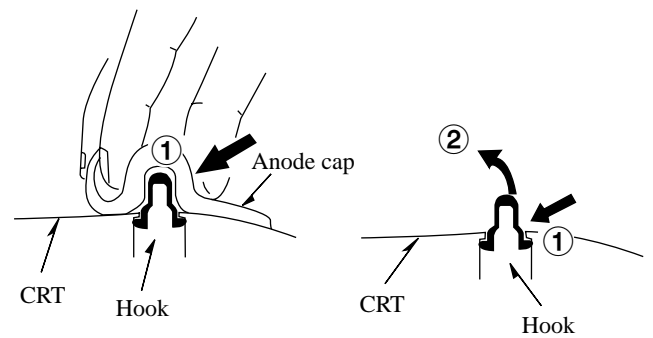

Fig. 2-3
- (5) Push the anode cap with your thumb in the direction of arrow ① as shown in the figure, then lift the cap in the direction of arrow ② to release the hook on one side. (See Fig. 2-3)